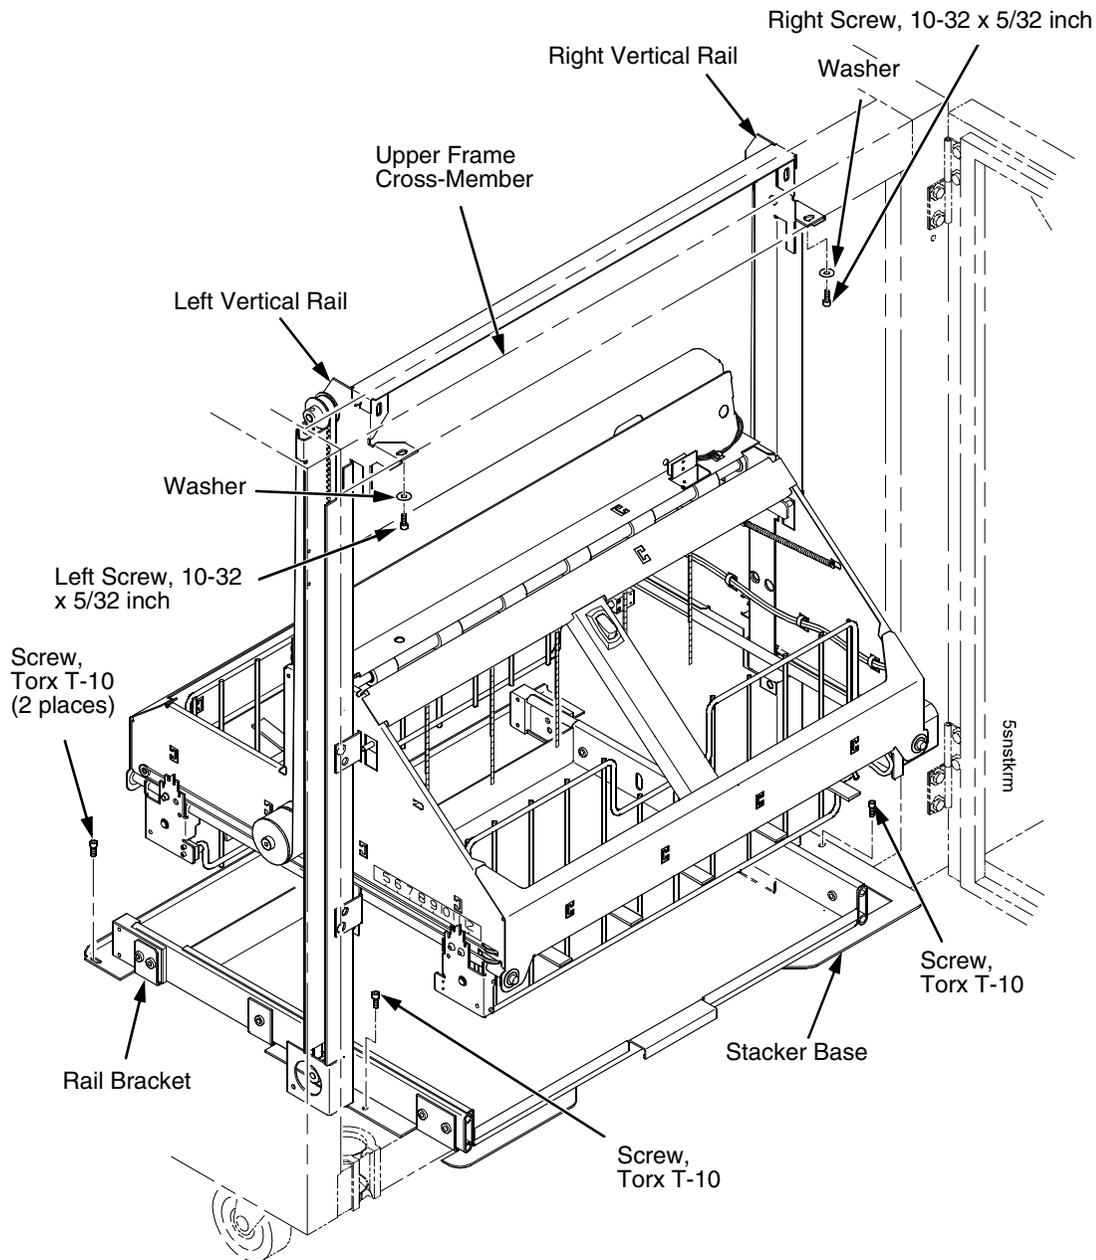

Figure 72. Preparing the Stacker for Removal
6. Remove the two 10-32 x 5/32 inch buttonhead screws and washers securing the vertical rails to the upper frame cross-member at the rear of the cabinet. (Figure 72.)
7. Remove the two Torx T-10 screws securing the stacker base to the cabinet floor. (Figure 72.)
8. Remove the two Torx T-10 screws that secure the rail bracket to the cabinet floor. (Figure 72.)